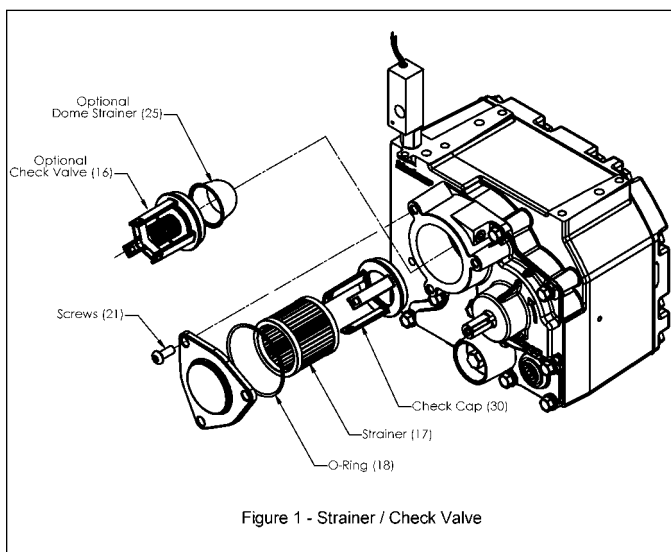

Figure 1 - Strainer / Check Valve
1. If equip with check valve option, insert dome strainer (25) into bore as shown on figure 1.
4. Insert check valve assembly (16) or check cap (30) into corresponding pump bore as shown in Figure 1. Press assembly squarely over receiving cylindrical surface until O-ring seats firmly over the surface and holds assembly in position.
5. Insert new or cleaned strainer (17) into bore, over check valve assembly.
6. Clean debris from strainer cover O-ring groove and install O-ring (18). If O-ring does not stay in place, use a small amount of all purpose grease to hold the O-ring in groove.
7. Install strainer cover (19) with screws (21). Hand tighten, alternating between each screw to keep the cover parallel to the casing face. Torque the screws to 150 lbs-in (17 Nm). DO NOT OVERTIGHTEN.
8. Replace the plug (11) in the hole located to the right of the strainer cover.